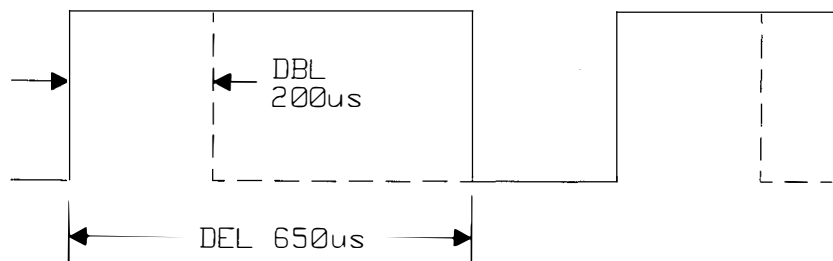

Figure 10.3-13. Width Generator Input
- Check the input signal from the delay generator at TP2 (pin 7 of U240 against Figure 10.3-13.